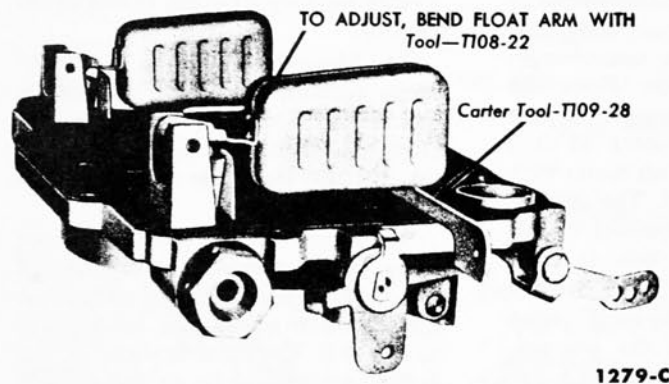

FIG. 47—Float Setting
1. With the air horn inverted, the air horn gasket in place, and the fuel inlet needle seated, check the clearance between the end of each float and the air horn gasket (Fig. 47). The clearance should be $\frac{3}{16}$ inch.